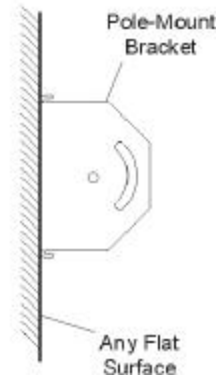

Figure 8-8 Pole Mount Bracket Attached to Wall
8. Mount the pole mount bracket to the wall, ceiling, or fixture using appropriate anchors (Figure 8-8).